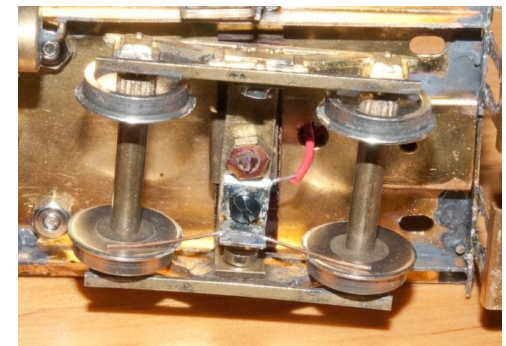

Figure 3
5. Either purchase an unpowered Stanton drive or add wiper contacts to the original dummy truck. Note that the wipers are in contact with the insulated wheelsets and also from the rest of the body (**See Figure 3**).